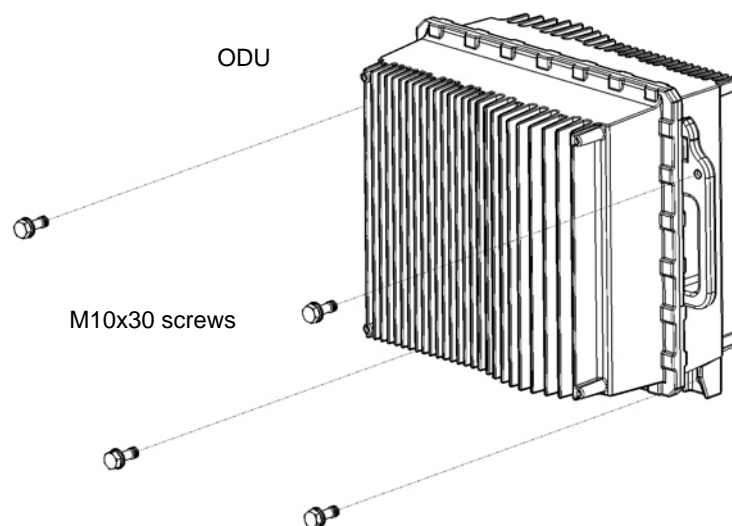

Figure 1: Preparing the 2x2/4x2 ODU for Installation
- 1 Prepare the ODU for pole mounting as shown in Figure 1.
- 1 Prepare the two ODUs for installation as shown in Figure 1.
- 1 Prepare the three ODUs for installation as shown in Figure 1.